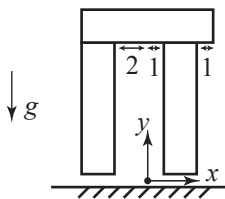

Figure 3: An assembly on a tray, with a frame attached to the tray. The tray frame is shown coincident with the fixed space frame.
5. Figure 3 shows an assembly of three identical planar blocks resting on a flat tray in gravity with $g = 9.8 \text{ m/s}^2$. Each block has dimensions $8 \times 2 \text{ cm}$, a mass of 1 kg with the center of mass in the center, and inertia about the center of mass of $9 \times 10^{-4} \text{ kg/m}^2$. The friction coefficient at each contact is 0.25.
- (iii) Explain Figure 3.